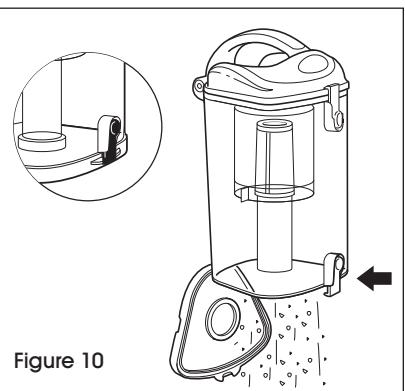

Figure 10
2. To empty debris into trash, press lower release button and bottom of dust cup will drop open. (See Figure 10)